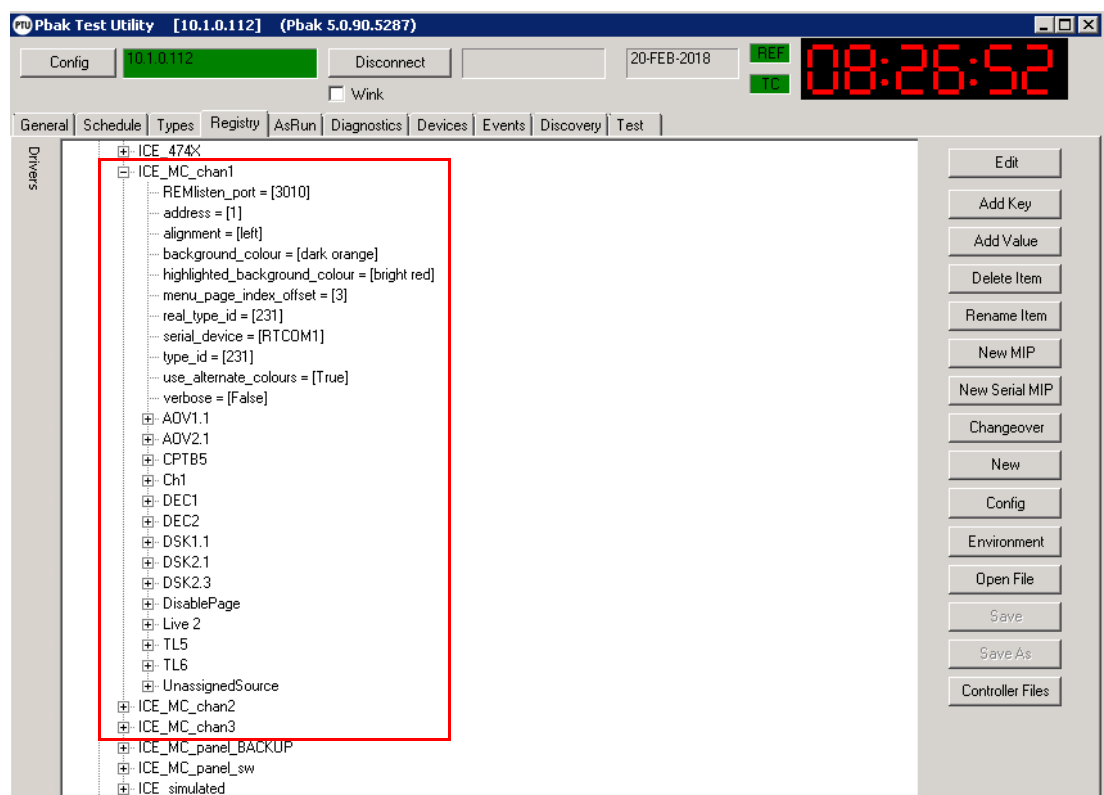

Figure 242 ICE Panel Configuration in the PBAK Test Utility
7. The branches for each of the panel layouts will be visible. Each of them can be opened in order to view their specific configurations (Fig. 242).